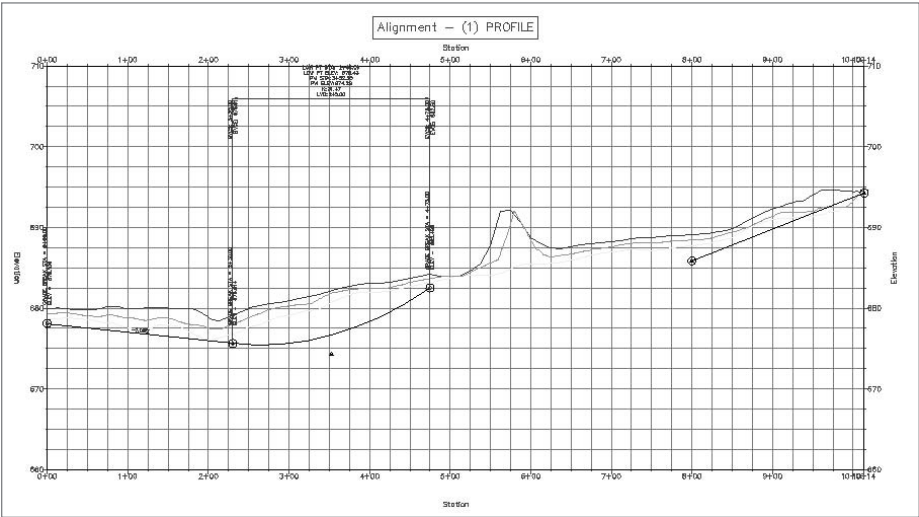

Figure A.59
14. Click the down arrow next to the Draw Fixed Tangent by Two Points tool, and select the Float Tangent (Through Point) option as shown in Figure A.59.